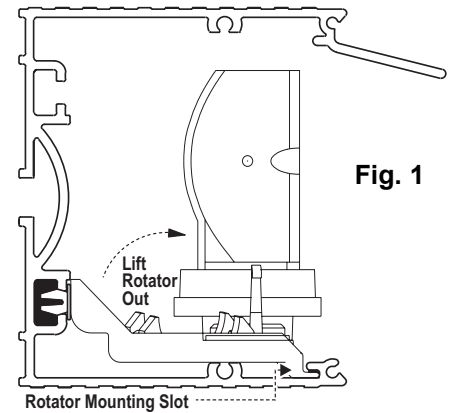

Fig. 1
5. Lift the rear of the rotator base as shown in fig. 1. Move the rotator towards the rear of the extrusion to free the base from its mounting slot then remove the rotator from the extrusion.
5. Lift the rear of the rotator base as shown in Fig. 1. Move the rotator towards the rear of the extrusion to free the base from its mounting slot then remove the rotator from the extrusion.